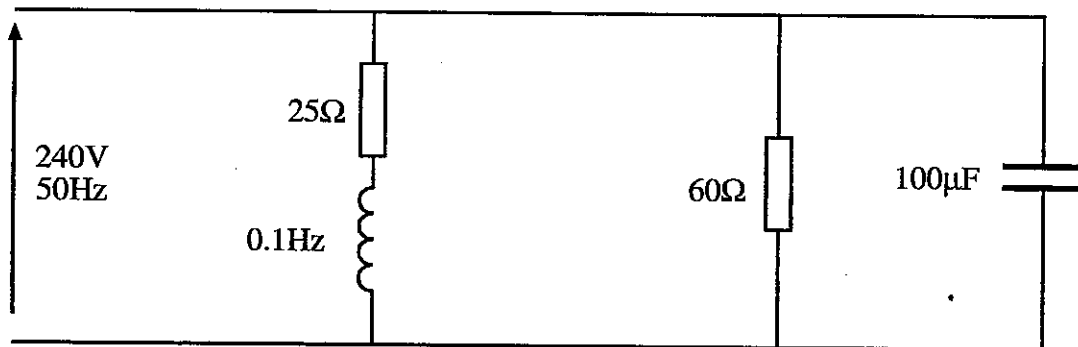

Fig Q4
4. For the parallel a.c. circuit shown in Fig Q4, calculate EACH of the following: